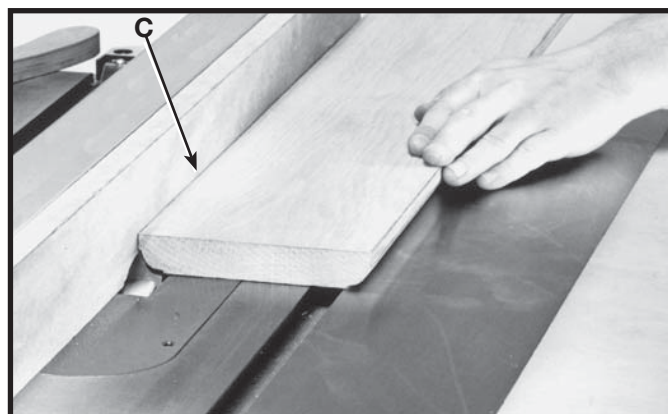

Fig. S16
2. When using the moulding cutterhead, add wood-facing (C) to the face of the rip fence (Fig. S16). The wood-facing is attached to the fence with wood screws through holes which must be drilled in the fence. Stock that is 3/4" inch thick is suitable for most work, although an occasional job may require 1 inch facing.
3. Position the wood-facing over the cutterhead with the cutterhead below the surface of the table. Turn the saw on and raise the cutterhead. The cutterhead will cut its own groove in the wood-facing. Fig. S16 shows a typical moulding operation.